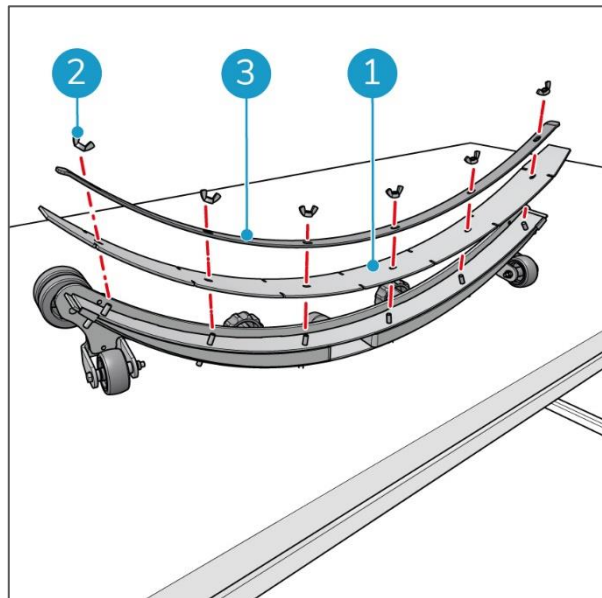

Figure 44
5. Loosen the six wing nuts of the front blade (Figure 44, pos 2).
6. Remove the clamping plate of the front blade (Figure 44, pos 3).
7. Remove the front blade (Figure 44, pos 1) from the squeegee body.
Placing back the front blade. See Figure 44.